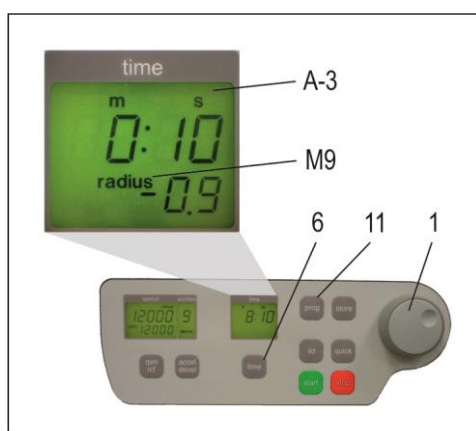

Figure21
For all number marked text, please refer to Figure21.
Put the desired rotor into the centrifuge. By pressing the key, "prog" (11), in the display "time" (A-3) appears the word "program", (see Figure 21). With the adjustable knob (1), choose the desired program number.